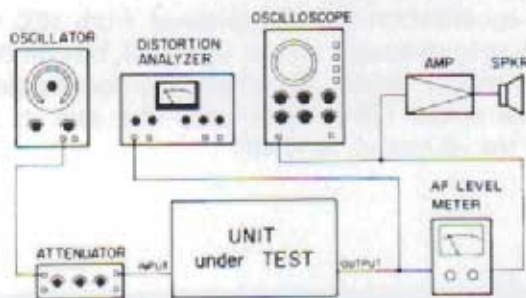

Fig. 9-5-16. Distortion Measurement Set-Up
1. Connect test equipment as shown in Fig. 9-5-16.